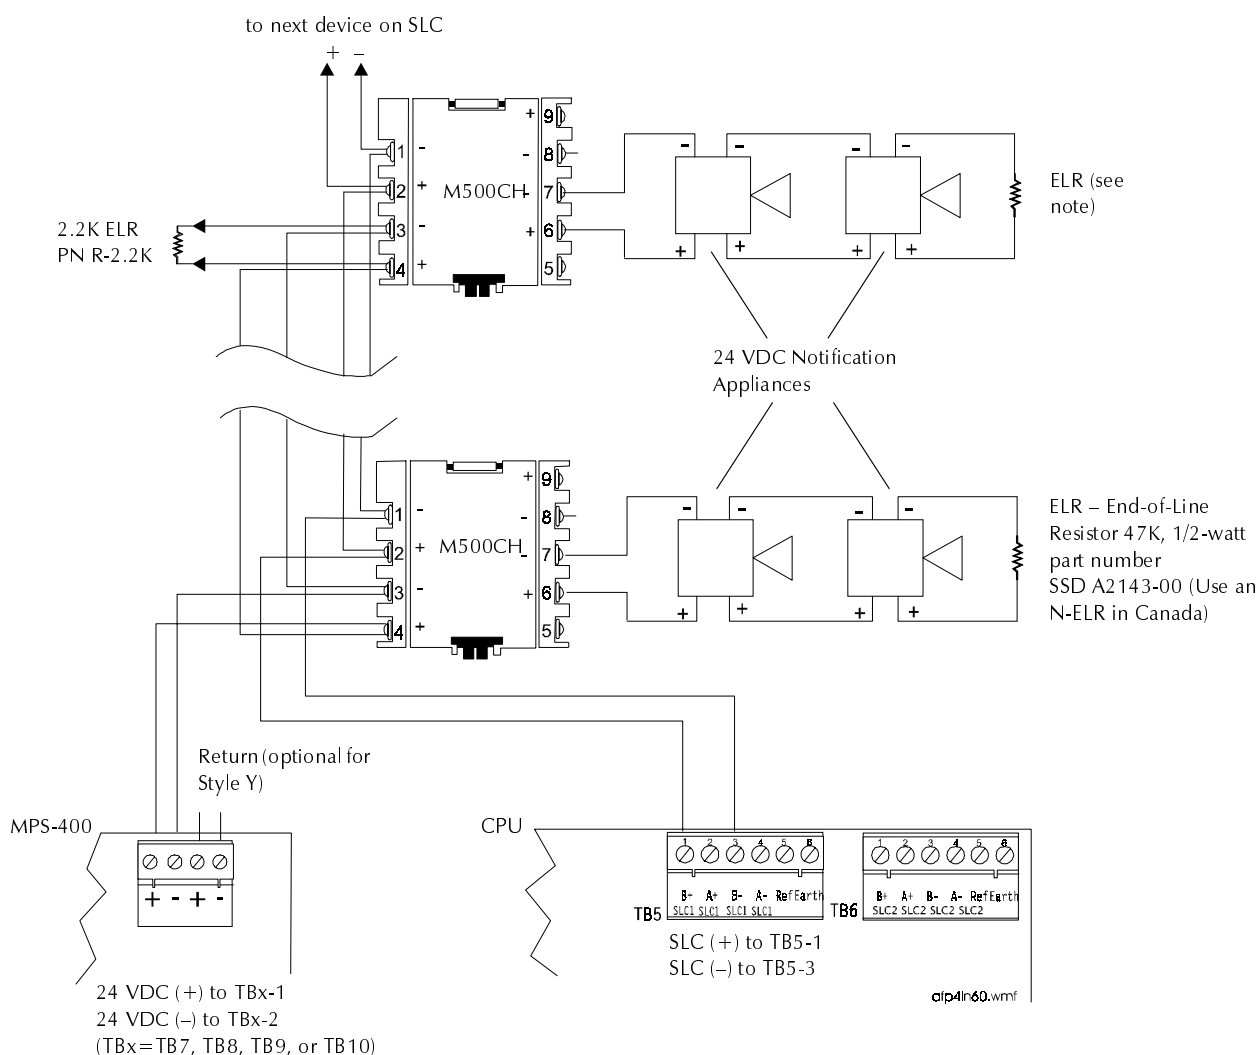

Figure 2-77 NFPA Style Z Notification Appliance Circuit (Method 2)
Method 2 – An alternate power arrangement where you power the M500CH (terminals 3 and 4) from one of the NACs on the MPS-400.	Figure 2-77
Figure 2-77 shows a second method of powering an M500CH from an MPS-400 NAC. (See Figure 2-76 on page 2-58 for the first method.) The NAC is supervised and power-limited. When an MPS-400 NAC supplies power to M500CH modules:
3. Terminate the power feed to the M500CH module with a 2.2K ELR (PN R-2.2K) or make the power feed a return to MPS-400 NAC terminals 3 and 4 (Figure 2-77).